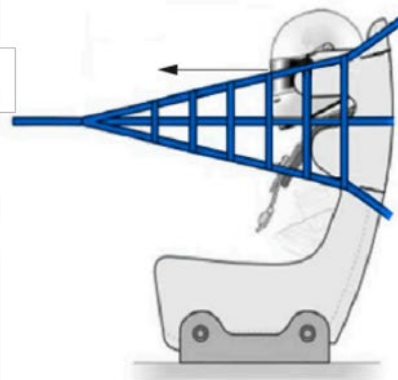

Fig. 42: Example of outer safety net
- ▶ As seen from the side, the upper strap of the net may be located vertically (Z-direction) at a maximum of 15 mm below and at a maximum of 80 mm above the eye (Fig. 42).
- ▶ The safety nets must contact the seat on the sides (Fig. 42).
- ▶ At least 2 of the vertical straps must cover the headrest (Fig. 42).